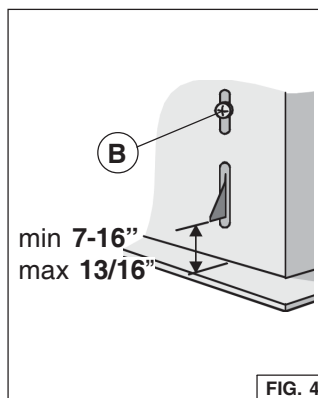

FIG. 4
3. Adjust the position of the clamping side spring by means of the proper "B" screw according to the thickness of the bored panel to which it is going to be anchored (Fig. 4).